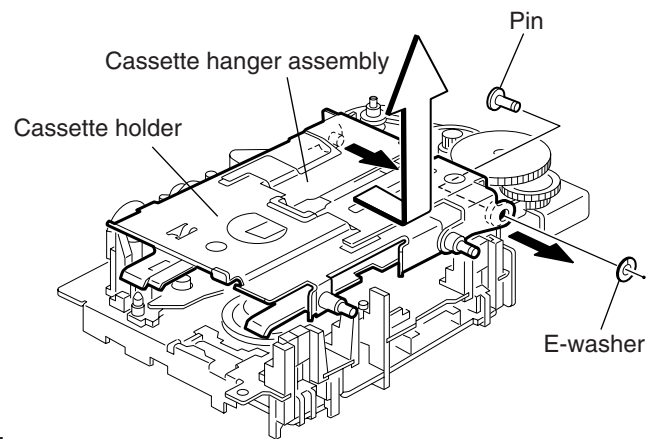

Fig.5
6. Remove the spring (2) and the holder collar on the right side of the body.
7. Remove the two screws **B** attaching the side bracket unit (R) in the direction of the arrow.
8. Remove the four screws **C** attaching the side bracket (L) in the direction of the arrow.
■ Removing the cassette hanger assembly / cassette holder (See Fig.5)
- Prior to performing the following procedure, remove the side bracket (L) and (R).